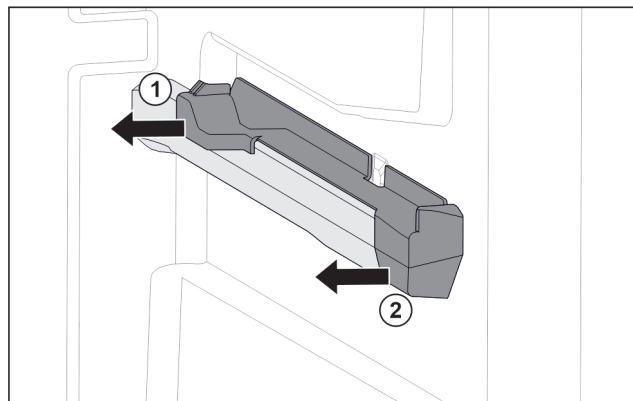

Fig. 82 Attachment on the right moulded rib
- ▶ Pull off attachment at the back sideways. *Fig. 82 (1)*
- ▶ Pull off attachment at the front sideways. *Fig. 82 (2)*